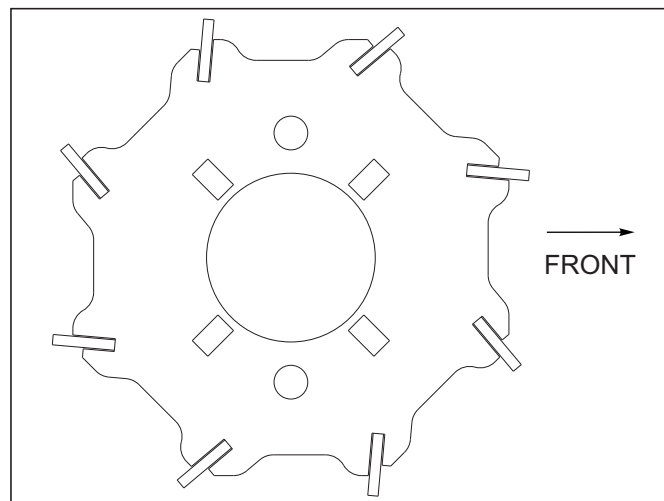

Figure 3-30: Flat Reel
5. Attach flat bar reels with angled blades as shown *See Figure 3-30*.